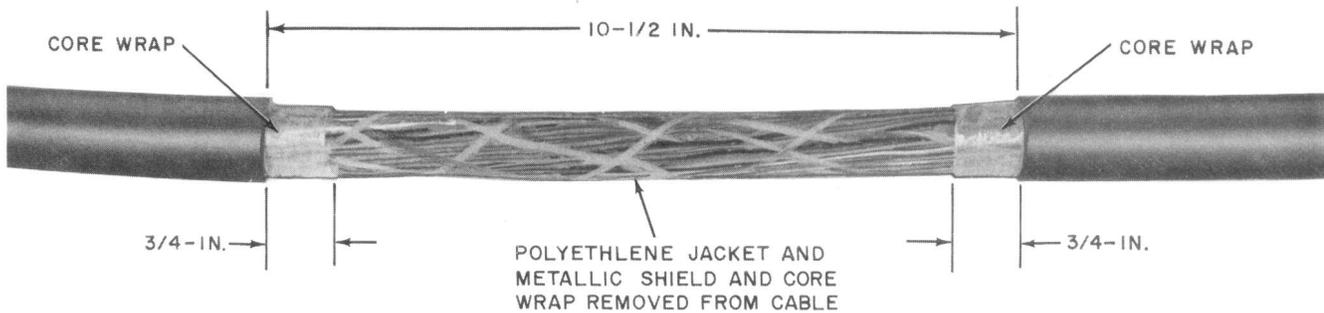

Fig. 4—Prepared Cable
3.02 Remove the polyethylene jacket and metallic shield between the two marks, then remove the core wrap leaving about 3/4 inch of core wrap at each end to protect the conductors (Fig. 4).